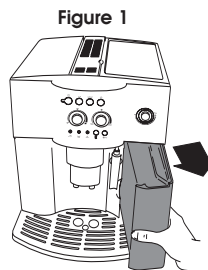

Figure 1
2. Rinse the water tank and fill it with clean, cold water without exceeding the MAX line. Replace the water tank by pushing it all the way in. (Figure 1)